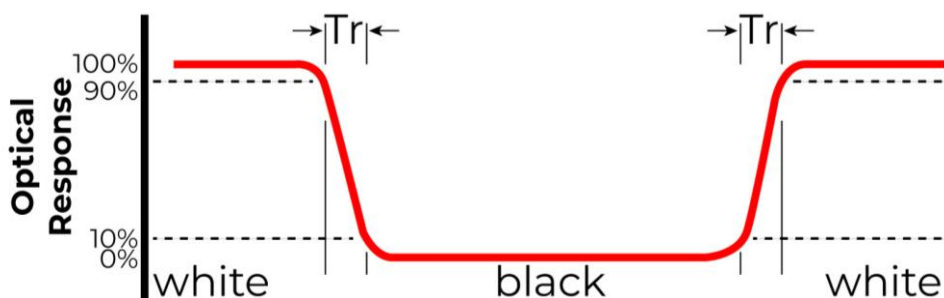

Figure 2. The definition of response time
| Response Time | Tr+Tf | $\theta=0^{\circ}$ $\phi=0^{\circ}$ $T_a=25^{\circ}\text{C}$ | - | 27 | 45 | ms | FIG 2. | 4, 7 |
Note 1. Contrast Ratio (CR) is defined mathematically as below, for more information see Figure 2.
Note 2. Surface luminance is the LCD surface from the surface with all pixels displaying white. For more information see Figure 2.
Note 3. The uniformity in surface luminance δ WHITE is determined by measuring luminance at each test position 1 through 5, and then dividing the minimum luminance of 5 points luminance by maximum luminance of 5 points luminance. For more information see Figure 2.